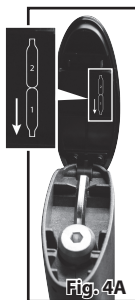
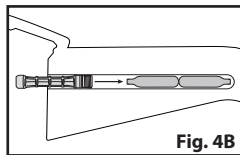

Fig. 4A
Fig. 4B
3. Remove the allen's wrench. Use the allen's wrench to loosen up the CO2 piercing screw and allow for clearance of the CO2 cartridges (Fig. 4A).
6. Insert two (2) new CO2 cartridges into the airgun.
**Cartridge 1:** Small neck first. **Cartridge 2:** Bottom dome first (Fig. 4B).